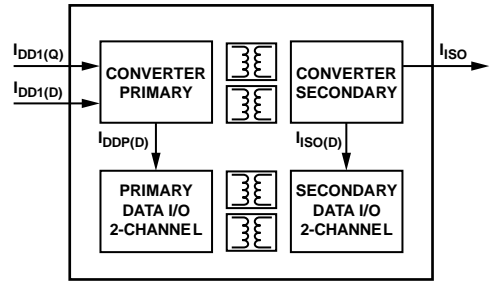

Figure 27. Power Consumption Within the ADuM620x
The VDD1 power supply input provides power to the iCoupler data channels as well as to the power converter. For this reason, the quiescent currents drawn by the data converter and the primary and secondary input/output channels cannot be determined separately. All of these quiescent power demands are combined into the IDD1(Q) current shown in Figure 27. The total IDD1 supply current is the sum of the quiescent operating current, the dynamic current IDD1(D) demanded by the I/O channels, and any external IISO load.